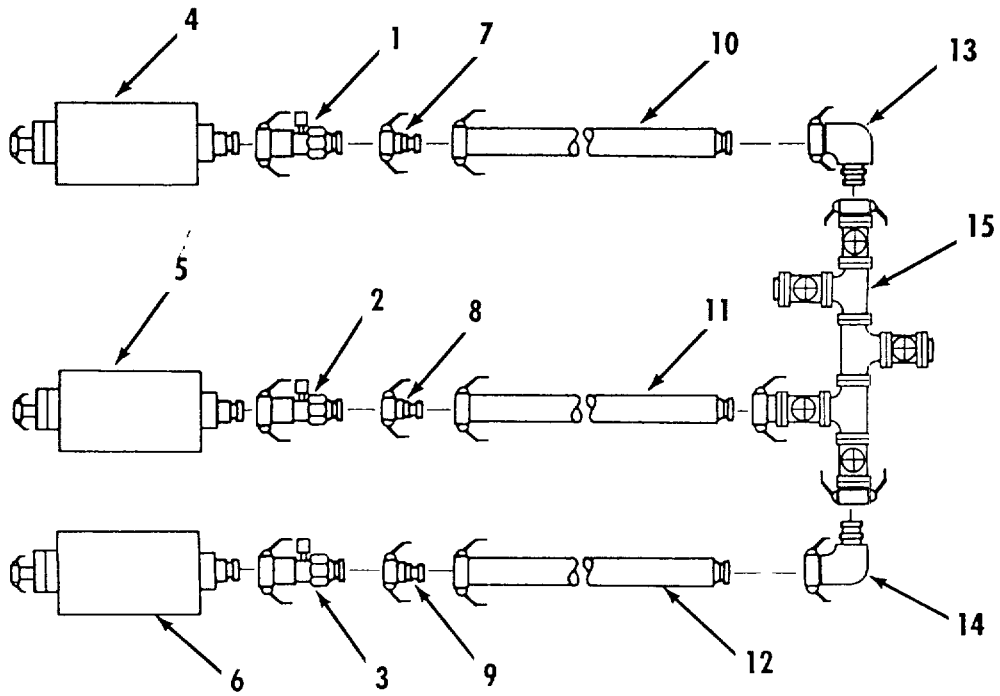

Figure 2-18. Fuel System - 200 GPM Filter-Separators to Fueling Manifold with Five Valves.
- j. Fuel System 200 GPM Filter-Separators to Fueling Manifold with Five Valves. Refer to figure 2-18.